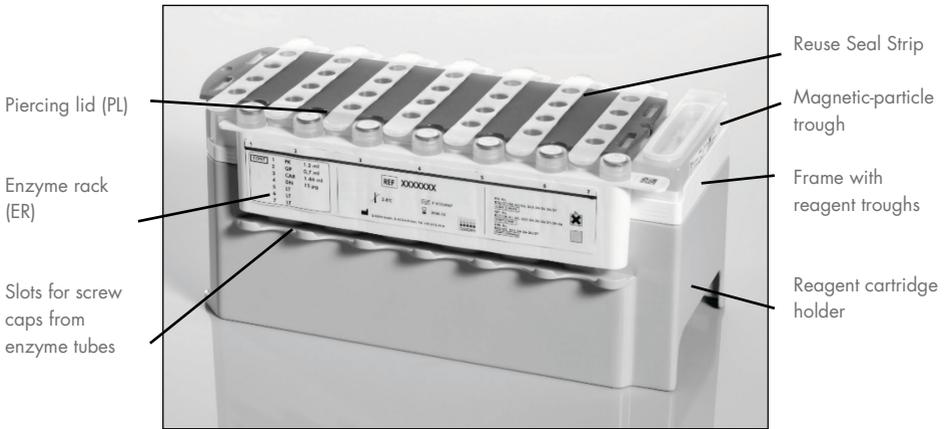

Figure 2. QIAasympy reagent cartridge (RC). The reagent cartridge (RC) contains all reagents required for the protocol run.
Reagents for purification of DNA are contained in an innovative reagent cartridge (RC) (see Figure 2). Each trough of the reagent cartridge (RC) contains a particular reagent, such as magnetic particles, lysis buffer, wash buffer, or elution buffer. Partially used reagent cartridges (RC) can be reclosed with Reuse Seal Strips for later reuse, which avoids generation of waste due to leftover reagents at the end of the purification procedure.
After the magnetic-particle trough cover is removed and the enzyme rack tubes are opened (screw caps can be stored in dedicated slots, see Figure 2), the reagent cartridge (RC) is subsequently loaded into the “Reagents and Consumables” drawer.